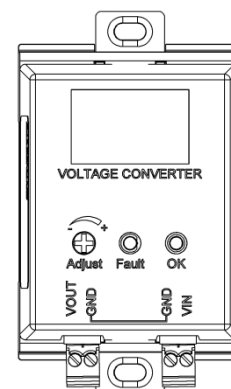

Figure 7: Mount with mounting tabs extended
1. If not showing, pull the blue mounting tabs out as shown in Figure 7.